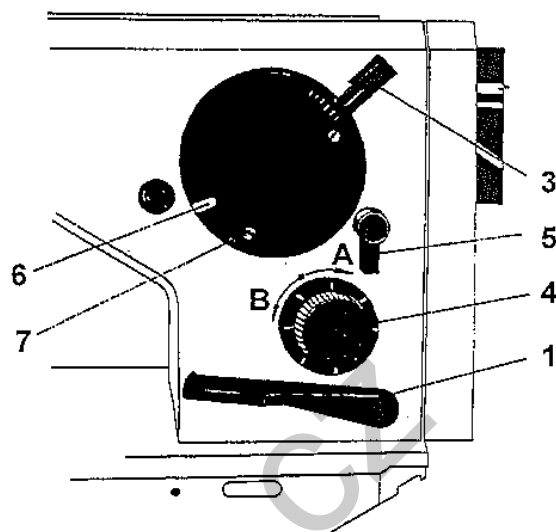

Fig. 7
1. Stitch length adjustment (Fig. 7)
2. To adjust the zigzag stitch width (Fig. 7)
12. To adjust the length of feeding (Fig. 7)